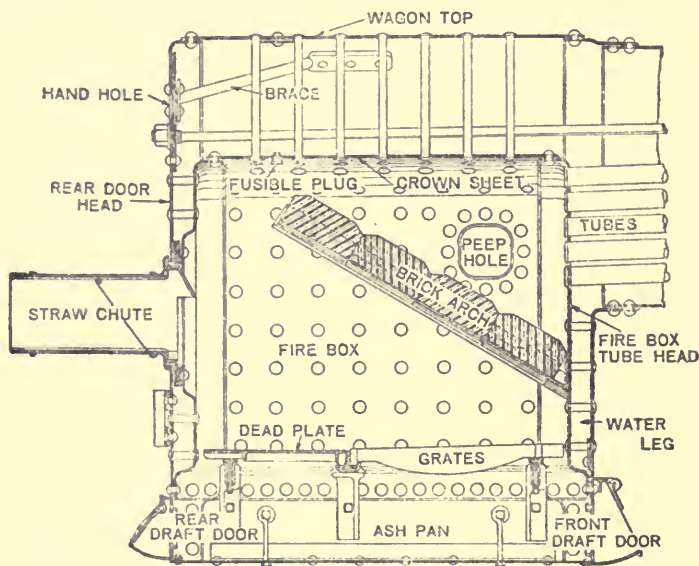

FIG. 9. SECTIONAL VIEW OF FIRE-BOX FOR BURNING STRAW.
*How to Fire with Straw.* At one time, the return-flue type of boiler was considered the only successful one for straw, but these are now almost obsolete and modern straw burning engines are all of the direct flue type. The Case straw burners are the same as the coal burners, except that they are fitted with straw grates, dead-plates, a brick arch and a straw chute and the boiler is lagged. (See Fig. 9.) Any Case engine, except the eighteen and thirty horse-power, can be made to burn straw by making these changes.